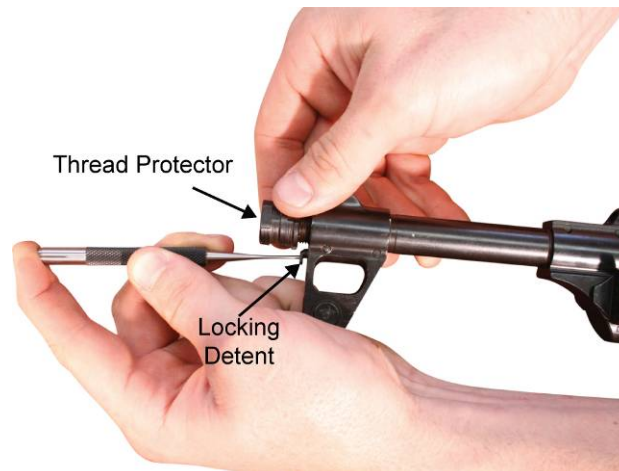

Figure 1. Depressing the Locking Detent and Removing the Thread Protector.
- a. Remove the thread protector from the muzzle of the barrel by holding down the locking detent with a punch and unscrewing the thread protector until it comes off. Refer to Figure 1.